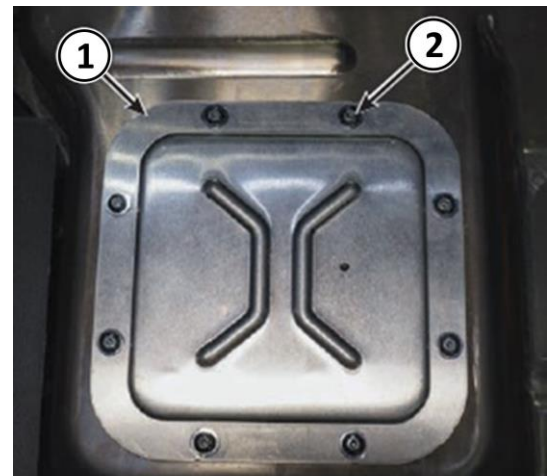

Figure 5 – Multi Meter
7. Use of an insulation tester such as the Fluke Meter, Multi 126-1587 is recommended for PHEV circuit testing. Perform the multi-meter functionality tests per the manufacturer's directions. If at any point during the procedure, the multi-meter settings are changed, or the probes are repositioned in the meter, verification with a known good power source must be repeated (Figure 5).